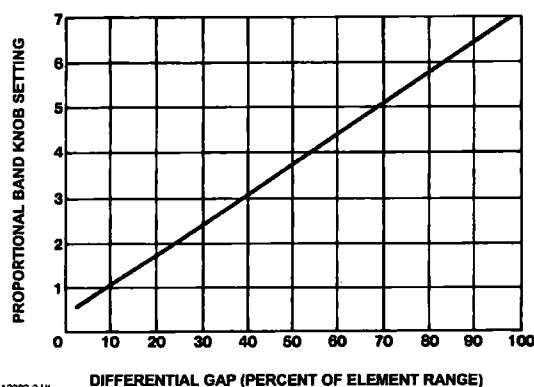

Figure 11. Differential Gap Adjustment for Differential Gap Controllers
The proportional band adjustment shown in figure 5 determines the width of the differential gap. The width of the gap is the difference between the process pressures at which the controller output will switch from zero to full supply pressure, or from full supply pressure to zero. The relationship between the proportional band dial setting and the differential gap is shown in figure 11.
4. Refer to figure 11 to determine the proportional band dial setting required for the desired differential gap.
From figure 11, the proportional band dial setting should be approximately 4.5; rotate the proportional band knob to 4.5.
2. Adjust the proportional band knob for the proper differential gap (see figure 11).